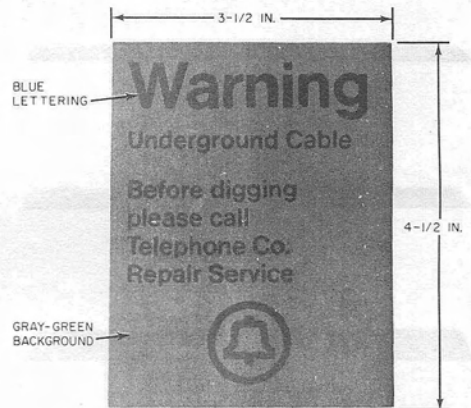

Fig. 7—F Warning Decal
- (f) **F Warning Decal (factory installed - Fig. 7):** Used as protective warning device. It has blue letters on a gray-green background.